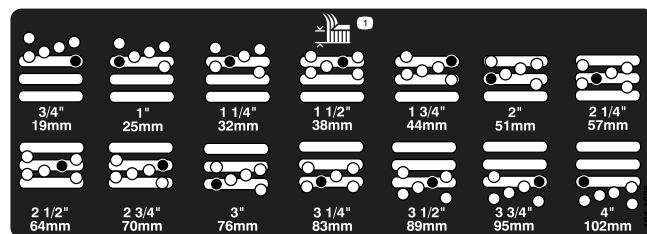

Figure 8
5. Move the chamber to the desired height-of-cut and install a spacer into the designated height-of-cut hole and slot (Figure 8).